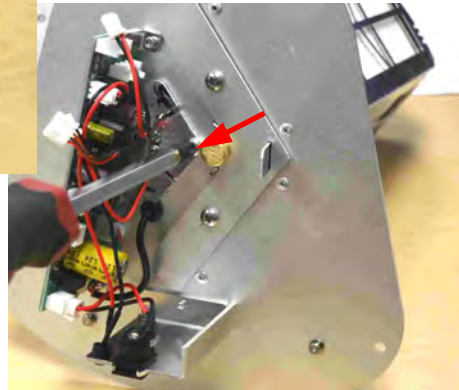

Figure 15
Use a Phillips screwdriver to unscrew one (1) screw holding the HALO-LED® Cell in place . Refer to **Figure 15**